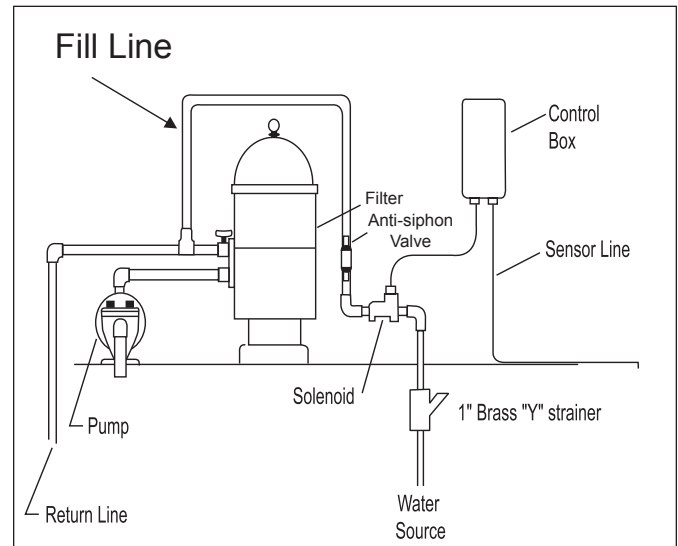

Figure 2. K-2000 Installation
1. Mount the control box to the wall near the pump and filter. See Figure 2. Do not install the control box within 10 feet (3 meters) of the pool edges.